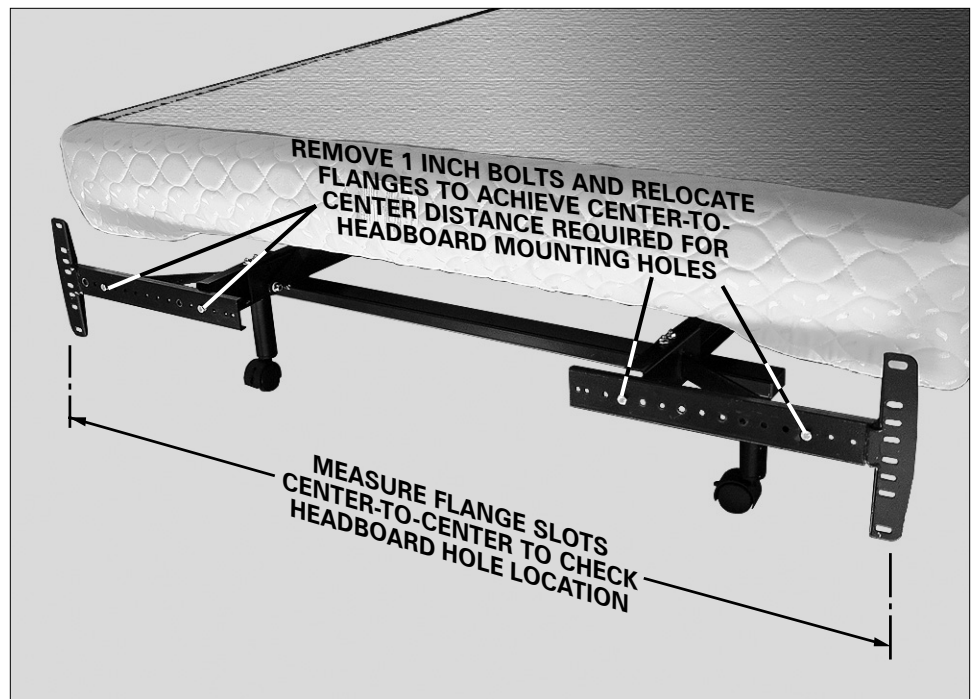

FIGURE 12: Headboard bracket measurement and adjustment to accept headboard.
g. Measure the center-to-center distance between the mounting slots of the headboard bracket flanges (**FIGURE 12**).
flanges side-to-side for the adjustment (**FIGURE 12**). Reinstall bolts and tighten.